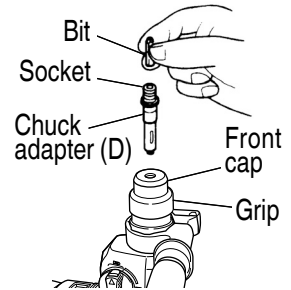

Fig. 26
4. When driving machine screws (Fig. 26)
5. When driving wood screws (Fig. 26)